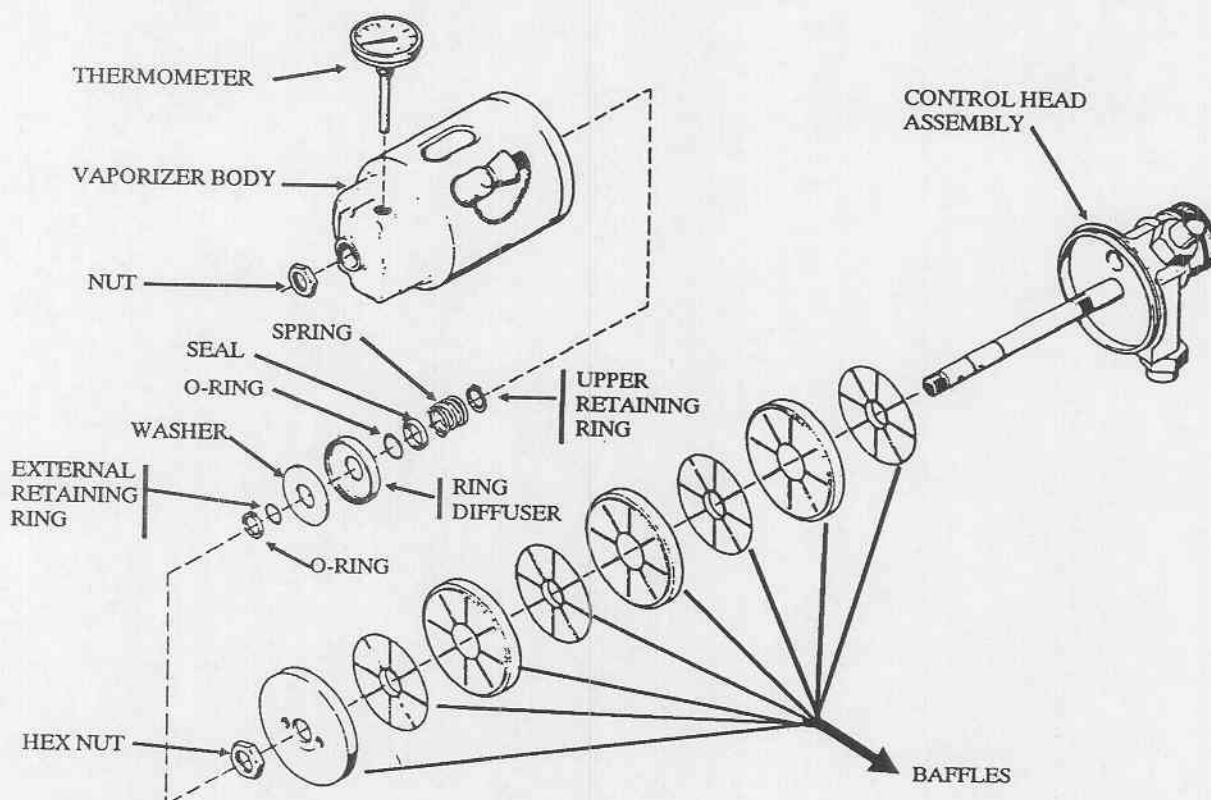

Figure 4-1. Vaporizer assembly
a. *Vaporizer sight glass.* Follow the procedures listed in table 4-4 to replace a broken sight glass. The vaporizer and sight glass assembly are illustrated in figures 4-1 and 4-2.
b. Vaporizing chamber. Follow the procedures listed in table 4-5 to service and clean the chamber components. Figures 4-1 and 4-2 are applicable.